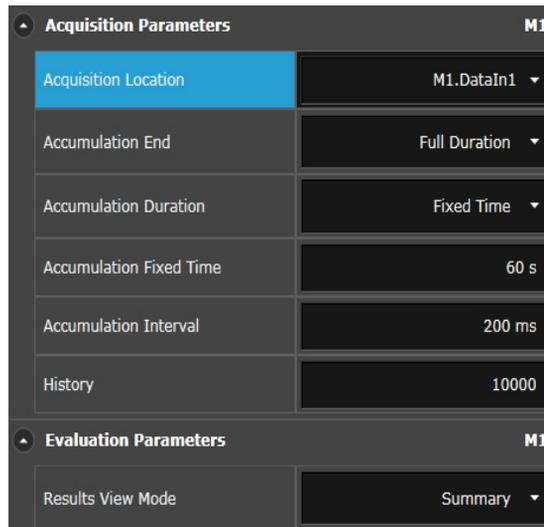

Figure 48 Acquisition parameter settings
- 17 The default acquisition parameter settings are used as shown in Figure 48 on page -88.